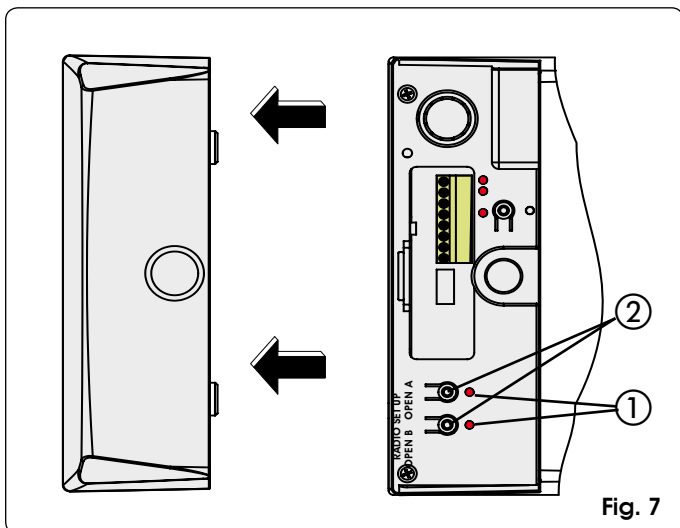

Fig. 7
- 2) To respectively memory store total or partial opening, press the OPEN A or OPEN B push-button for one second (Fig. 7 ref. ②).